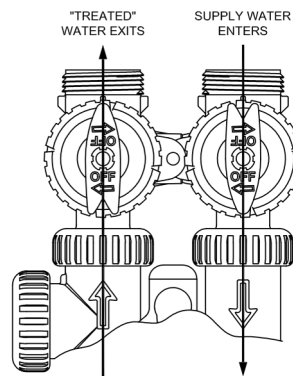
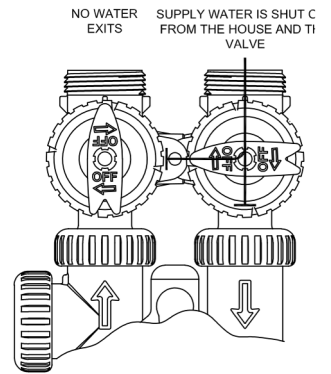

figure 1
figure 4
**1. Normal Operation Position:** The inlet and outlet handles point in the direction of flow indicated by the engraved arrows on the control valve. Water flows through the control valve during normal operation and this position also allows the control valve to isolate the media bed during the regeneration cycle. (see figure 1) **2. Bypass Position:** The inlet and outlet handles point to the center of the bypass, the control valve is isolated from the water pressure contained in the plumbing system. Untreated water is supplied to the plumbing system. (see figure 2) **3. Diagnostic Position:** The inlet handle points in the direction of flow and the outlet handle points to the center of bypass valve, system water pressure is allowed to the control valve and the plumbing system while not allowing water to exit from the control valve to the plumbing. (see figure 3) **4. Shut Off Position:** The inlet handle points to the center of the bypass valve and the outlet handle points in the direction of flow, the water is shut off to the plumbing system. If water is available on the outlet side of the softener it is an indication of water bypass around the system (i.e. a plumbing connection somewhere in the building bypasses the system). (see figure 4)